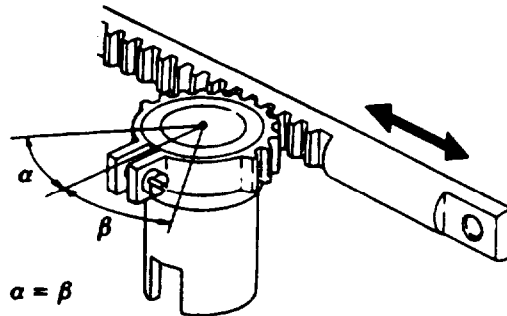

FIGURE 3-28. Checking Sleeve Pinion Movement
- i. Install guide screw (38) into back of pump housing. Ensure control rack (39) moves smoothly.
- k. Push control rack (39) fully toward drive side and then pull fully in opposite direction. Ensure that sleeve pinion (30) moves through same angle from control rack's center position when control rack is pushed or pulled, refer to FIGURE 3-28.